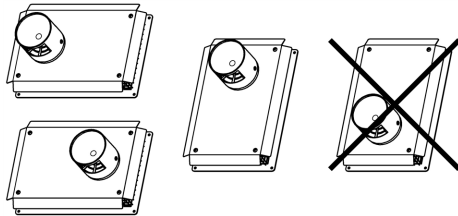

Figure 18 Allowed SST installation orientations
- » Install the SST with the vent and intake pipes horizontally beside each other or vertically with the vent pipe on top. The vent pipe cannot be installed below the intake. The vent cap must be installed with the openings directed up and down (see Figure 18), and not side to side.